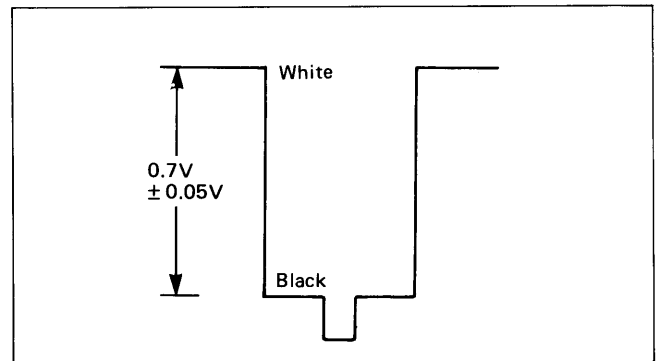

Fig. 33
- 4) Adjust Sub Contrast VR (R4088) to achieve  $0.7\text{V} \pm 0.05\text{V}$  on the oscilloscope as shown in Fig. 33.